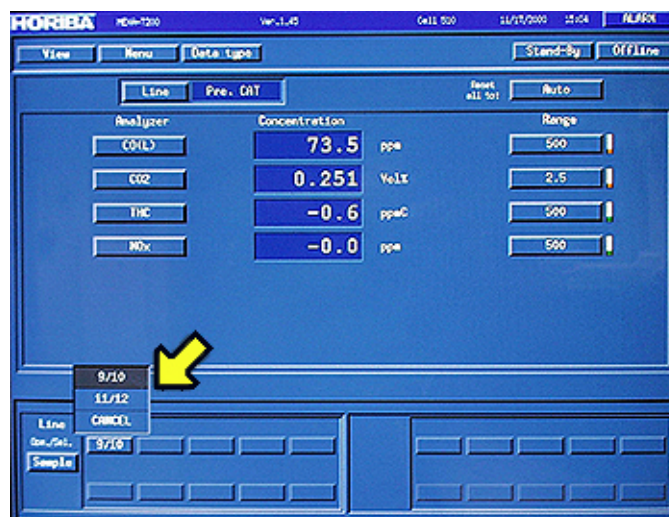

Figure 4
- 107 From the selections that appear on the Horiba computer screen, select the appropriate test cell, either "9/10" or "11/12." See the arrow in Figure 4.